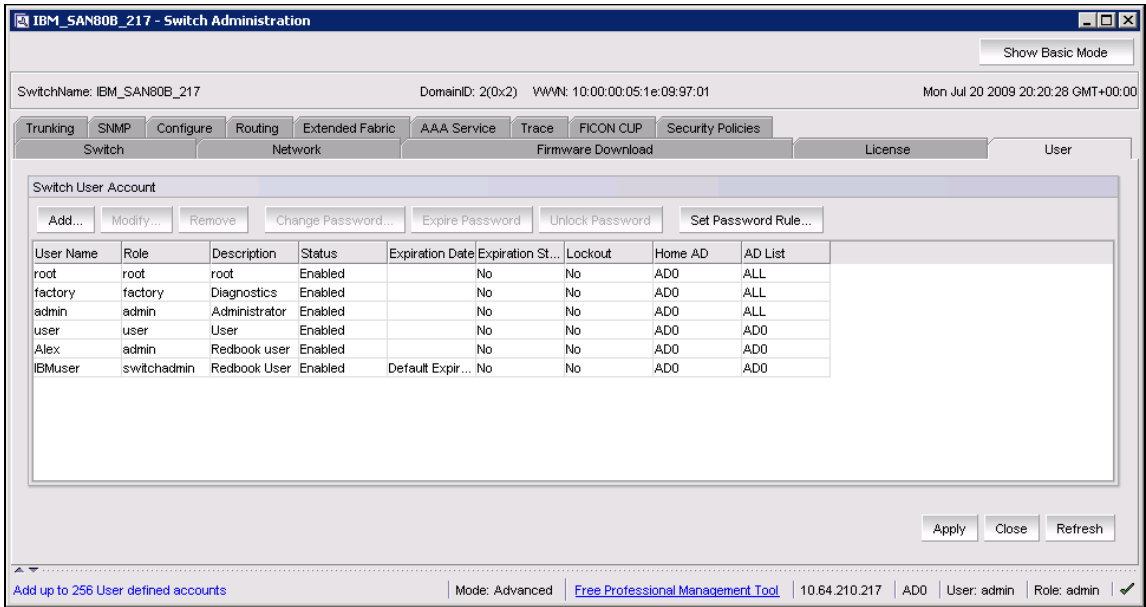

Figure 8-87 New user is created
- In this example, we add a user named *IBMuser* with the *switchadmin* role. The user is associated with *AD0*. After entering all the necessary information, click **OK**, and the new user is created (see Figure 8-87).